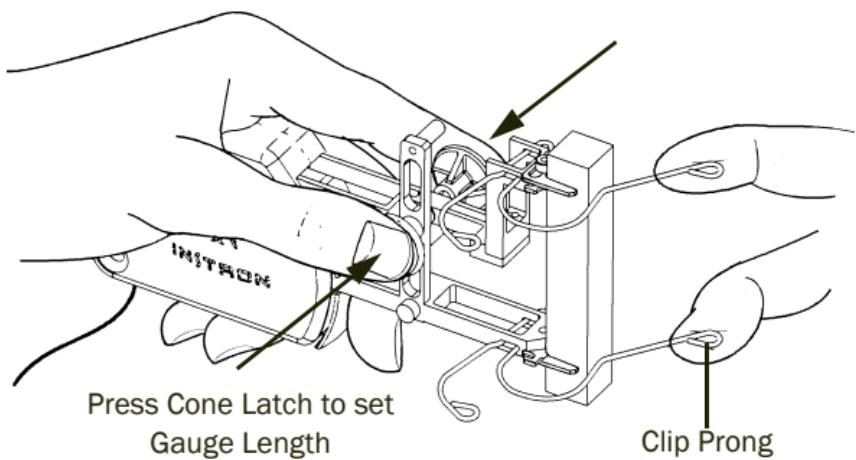

Figure 8. Two-Handed Installation
2. Using the other hand open the wire clips to clear the specimen, as shown in **Figure 8**.